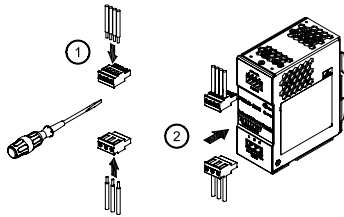

Figure 4
Caution: Must tighten wire to terminal block (Fig.4 (1)) before plugging into the terminal block connection (Fig.4 (2)) In accordance to EN 60950 / UL 60950, flexible wires require ferrules.